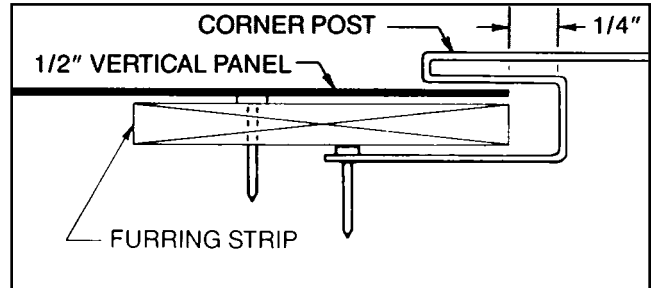

Fig 8.6
- B. If the final siding panel is cut down outside to V-groove, use a furring strip to maintain the surface plane (Fig. 8.6).